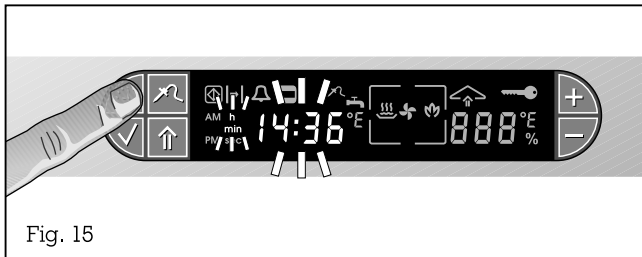

Fig. 15
- Press the ⌚ (Timer) key **3 times**. The h/min (Time unit) symbol flashes on the display. The time display shows the currently set time of day (Fig. 15).